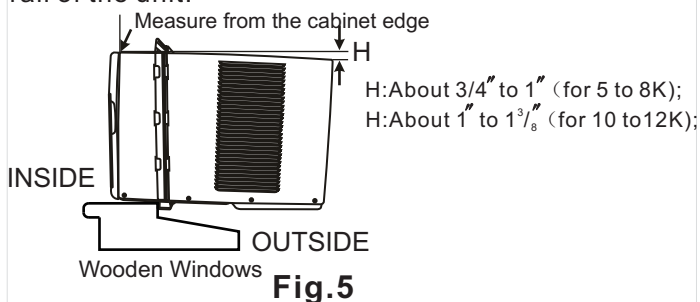

Fig.5
- A. Keep a firm grip on the air conditioner, carefully place the unit into the window opening so the bottom of the air conditioner frame is against the window sill (Fig.5). Carefully close the window behind the top rail of the unit.
NOTE: Check that air conditioner is tilted back about H (Fig.5) (tilted about 3° to 4° downward to the outside). After proper installation, condensate should not drain from the overflow drain hole during normal use, correct the slope otherwise.